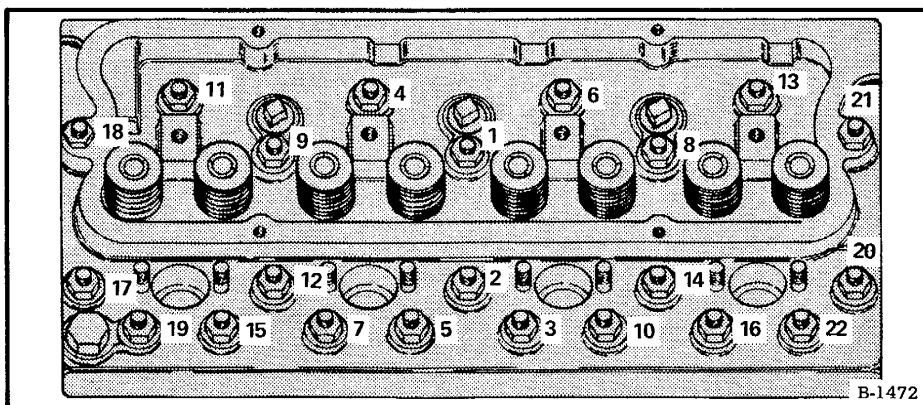

Fig. 47 Cylinder Head Tightening Order
2. Torque head screws to 85 ft.-lbs. (See Figure 47 for proper sequence).